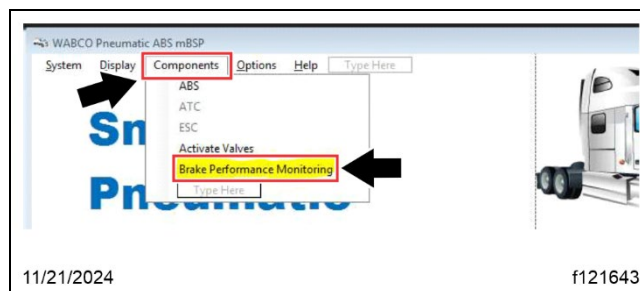

Fig. 63, Launching the Brake Performance Monitoring Window
22.1. From the menu bar, go to 'Components,' then select 'Brake Performance Monitoring.' See Fig. 63.